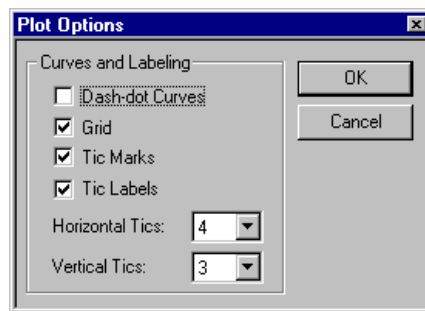

Figure 3-8. Plot Options Dialog.
- **Plot Options:** Via the Plot Context Menu, Plot Options (see Figure 3-8) are used to customize the plot for data viewing and plotting. Access the plot context menu with a right mouse click in the plot area and then select Plot Options. The customizing options include: